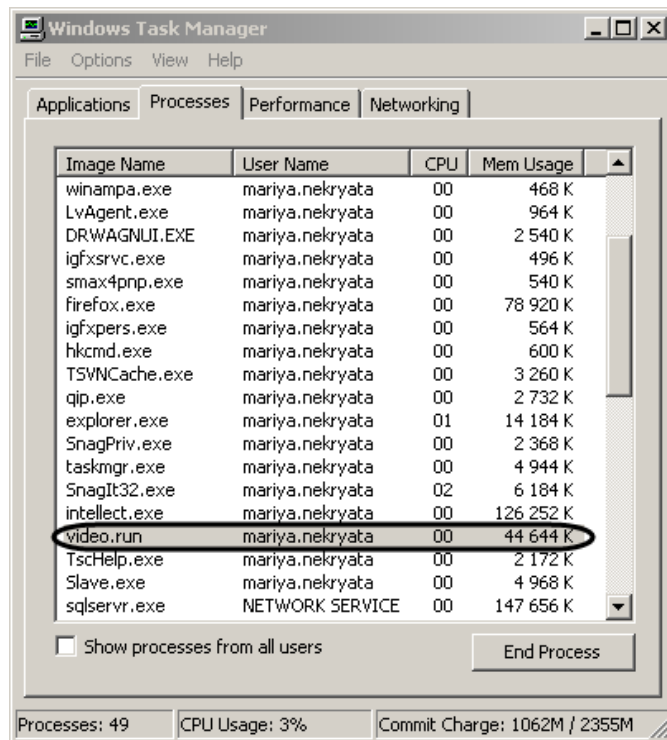

Figure 3.1-22 Ending of the video.run process using the Windows task manager
4. End the **video.run** process using the Windows task manager (Figure 3.1-22).